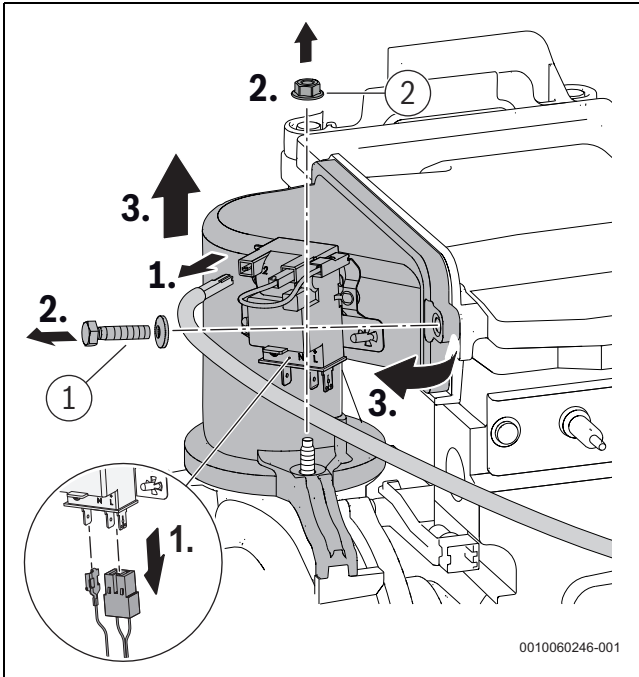

Fig. 87 Removing the mixing device
Refer to figure 87.
- ▶ Tighten the screw and nut ([1] and [2], Fig. 87) on the mixing device.